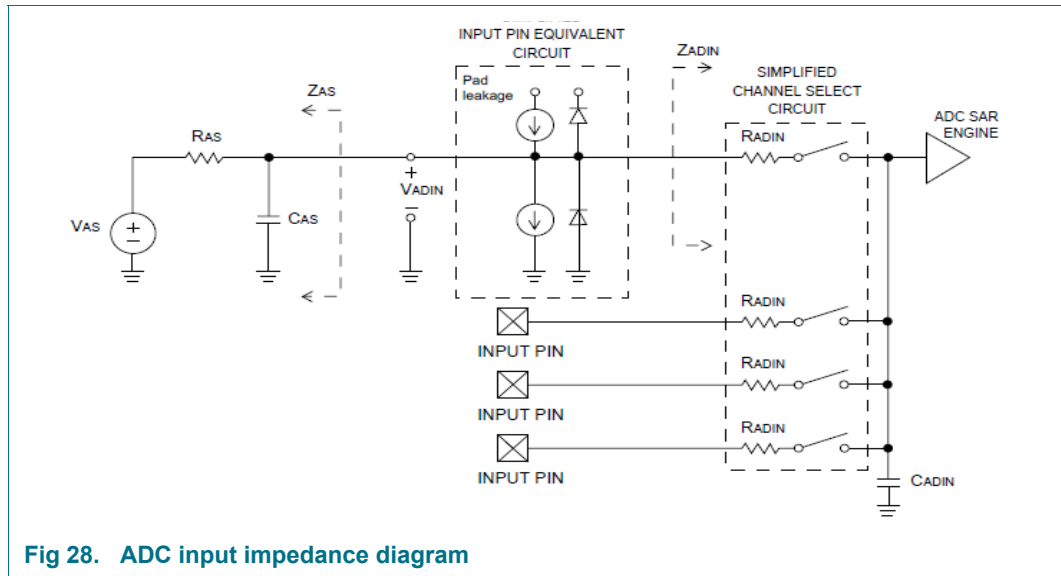

Fig 28. ADC input impedance diagram
- [3] CADIN represents the external capacitance on the analog input channel for sampling speeds of 1.0 Msamples/s. No parasitic capacitances included. See Figure 28
- [8] This resistance is external to the MCU. To achieve the best results, the analog source resistance must be kept as low possible. The results in this data sheet were derived from a system that had $< 15\text{ }\Omega$ analog source resistance. See Figure 28.
- (1) Example of an actual transfer curve.
- (2) The ideal transfer curve.
- (3) Differential linearity error (E_D).
- (4) Integral non-linearity ($E_{L(adj)}$).
- (5) Center of a step of the actual transfer curve.